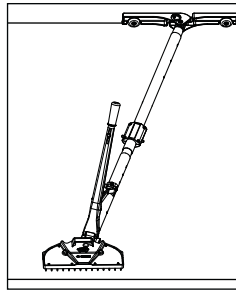
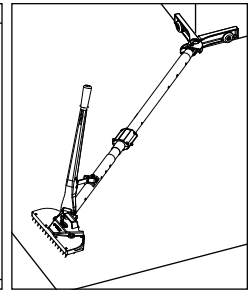

Figure 4
Figure 5
- C. Lock at 15° for normal angle stretching (See figure 4). Lock at 30° for extreme angles such as those often found in living room/dining rooms. (See figure 5.)